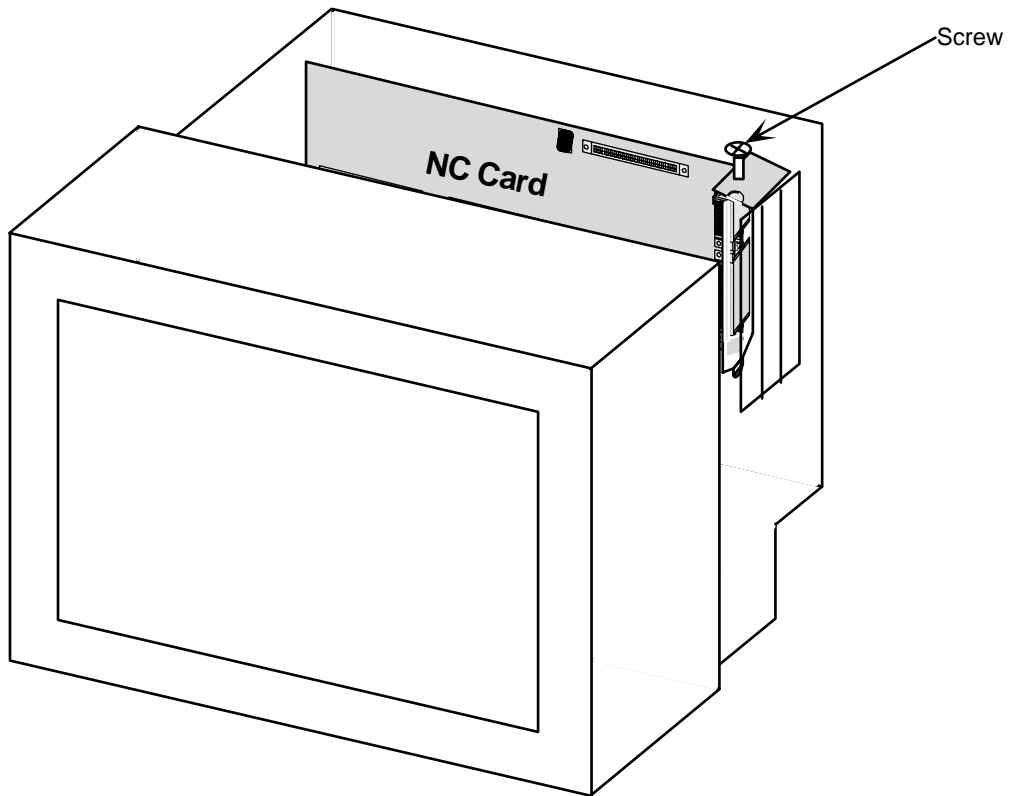

Fig. 1
- (1) Check that the machine and personal computer power is OFF. (If the power is not OFF, turn it OFF.)
- (2) Disconnect the personal computer power cable and all cables that are connected to the NC Card.
- (3) Following the instructions in the personal computer manual, remove the personal computer cover.
- (4) Remove the fixing screw (one location) that fixes the NC Card to the personal computer. (Refer to Fig. 1)